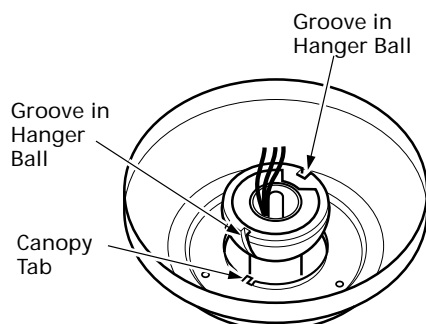

Figure 6b - Canopy Tabs and Grooves in Hanger Ball
3. For Standard and Angle Mounting only: In addition to sub-steps 1 and 2, lift the fan housing towards the ceiling and rotate the fan until each canopy tab engages a groove in the hanger ball as shown in Figure 6b.